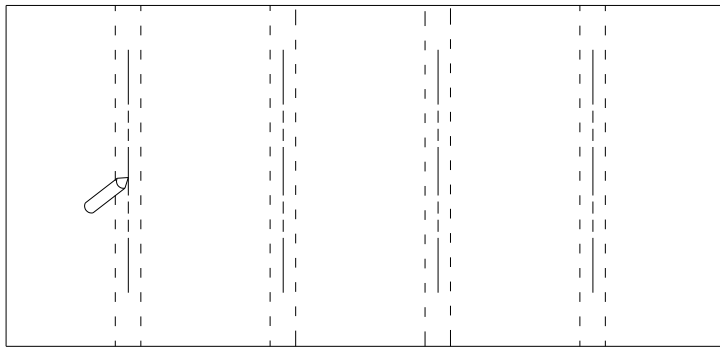

Figure 9
1. Use a high quality electronic stud finder (commercially available) to locate dead center of four adjacent wood studs spaced 16" apart. Mark the location of each stud (Figure 9). If a different placement of the 55" Storm Shell is required to center the TV in a particular space, or if the wall studs are built at 20" spacing, then an Adapter Mounting Plate will be required. Please consult Item "55 Storm Shell Adapter Mounting Plate", as shown on StormshellTV.com/Products.